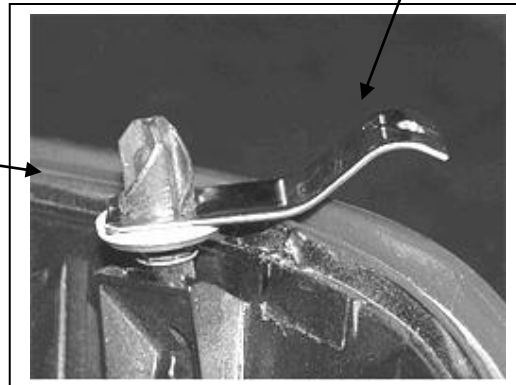

FIG. 3
4. Position the taillight assembly snap-in fasteners back into position and push into place. Place the guard over the taillight and reinstall the two stock Phillips head screws through the guard through the bed and into the taillight assembly. Leave the screws loose for now. (Fig 3)